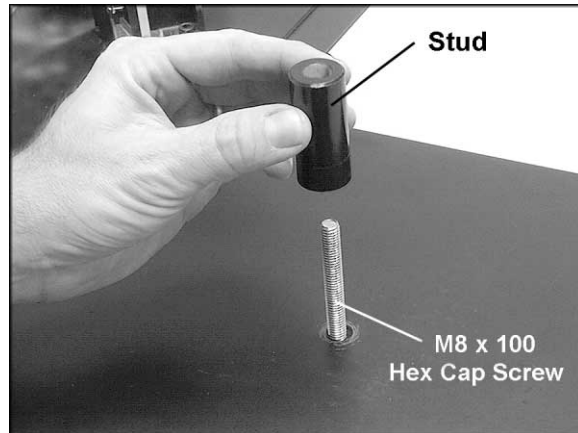

Figure 2
2. From below the support table, insert the M8 x 100 hex cap screw up through the hole in the center of the support table as shown in Figure 2. (The hex nut on the screw should be below the support table.)
3. Place the stud, with its threaded opening facing down, over the hex cap screw and thread it down onto the hex cap screw. See Figure 2.